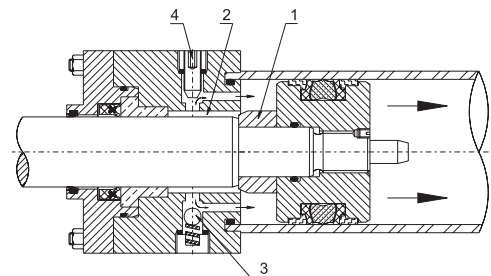

FIGURE 2 : CUSHION OUT
Fig. 2 : When fluid under pressure enters the cylinder head end to move the piston in the opposite direction the fluid moves the Ball check (3) off its seat, opening the passage for more pressure fluid to act against the piston , thus speeding its start-up movement as the cushion plunger (1) is immediately forced out of the cavity (2).